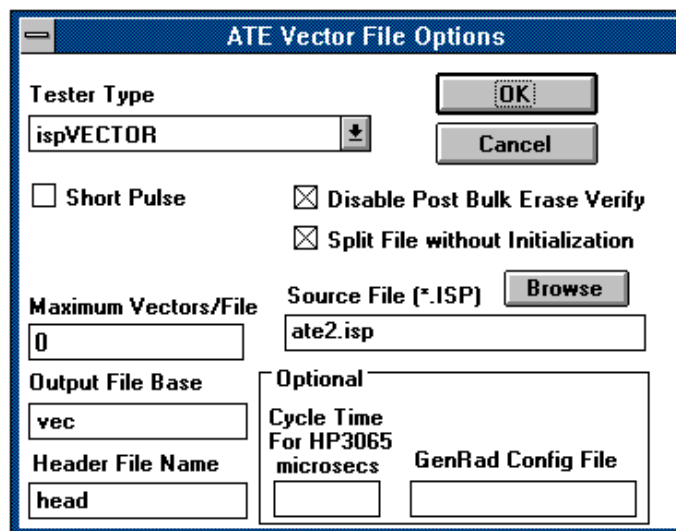

Figure 3-27. Filling in the ATE Vector File Options Dialog Box
5. Enter a name in the Header File Name field. Type **head** (Figure 3-27).